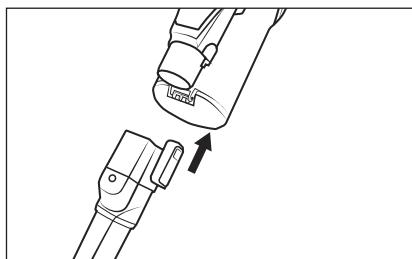

Fig. 14
- Use the round brush nozzle ⑭ with its hard bristles for deep-seated dirt on coarse carpets or heavily soiled car interiors. The brush attachment can be removed from the nozzle to vacuum rounded inserts or storage compartments in the car, for example.
- ◆ Push the accessory onto the suction pipe ⑭ or onto the suction opening of the appliance until it clicks into place (see Fig. 14). Make sure that the locking mechanism is in the correct position.